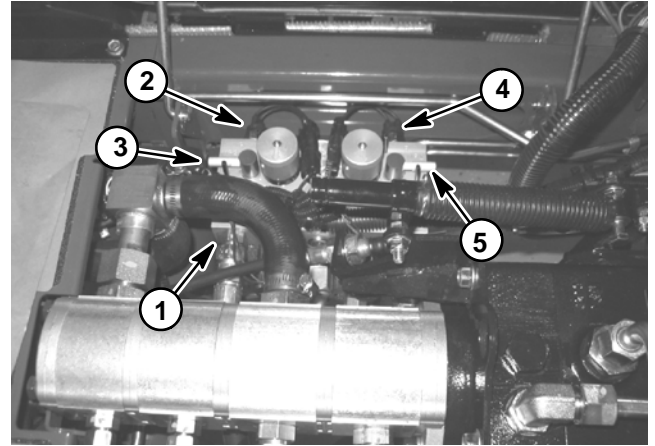

Figure 68
### Removal (Figs. 68 and 69)
3. Locate the backlap switch on the mow control manifold that is to be replaced (Fig. 68).
### Installation (Figs. 68 and 69)